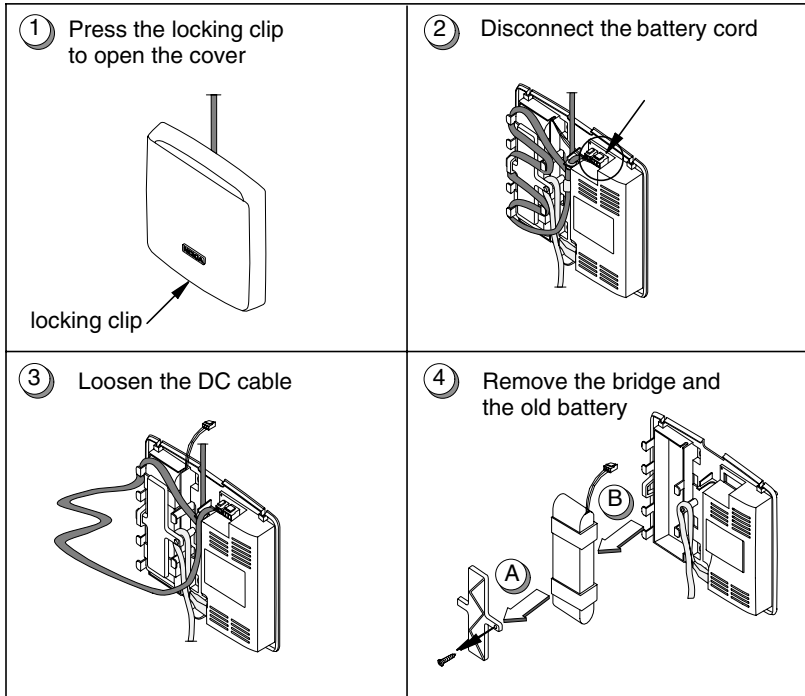

Figure 1. Removing the old battery from the power supply unit
- Figure 1. Removing the old battery from the power supply unit **17**
1. Open the power supply unit cover as shown in 1 of Figure 1.
2. Disconnect the battery cord. See 2 of Figure 1.
3. Loosen the DC cable which is guided around the guiding pins. You do not have to disconnect the DC connector. See 3 of Figure 1.
4. Open the screw which is holding the battery support bridge in place. Remove the battery support bridge and the old battery. See 4 of Figure 1.